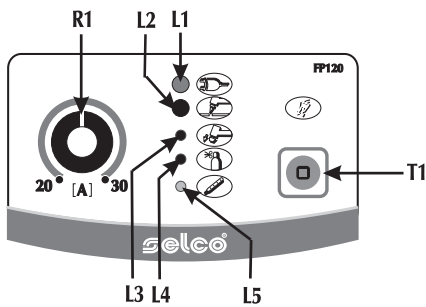

Fig. 1
2.1.1 Front control panel FP120 (Fig.1)